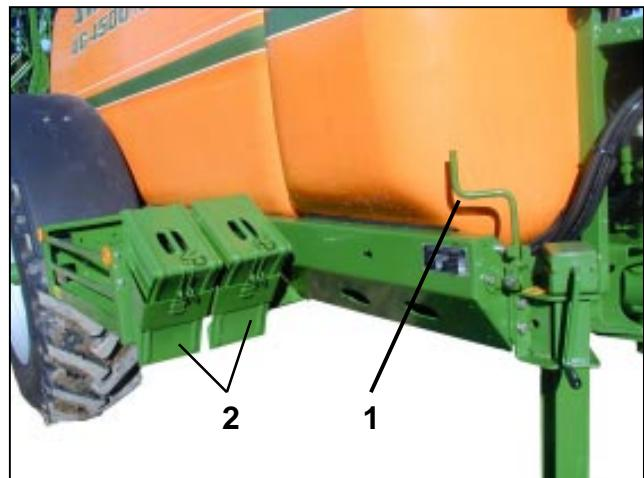

Fig. 5.8
- Remove chocks, secure them in the pockets (Fig. 5.8/2) on the frame side.